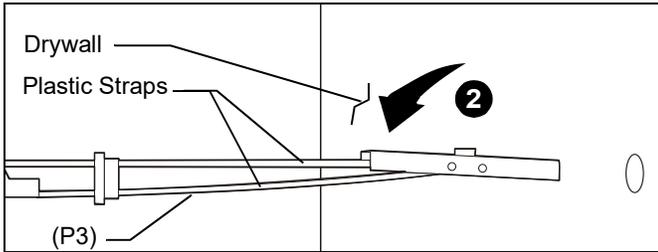

Figure 15
2. Hold metal channel on anchor (P3) flat alongside plastic straps and slide channel through hole. (See Figure 15)